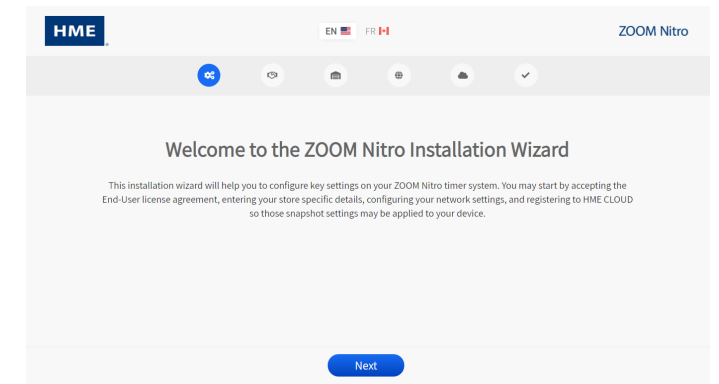

Fig. 2.5
- When you first boot up the system, the Installation Wizard screen appears (see Fig. 2.5).